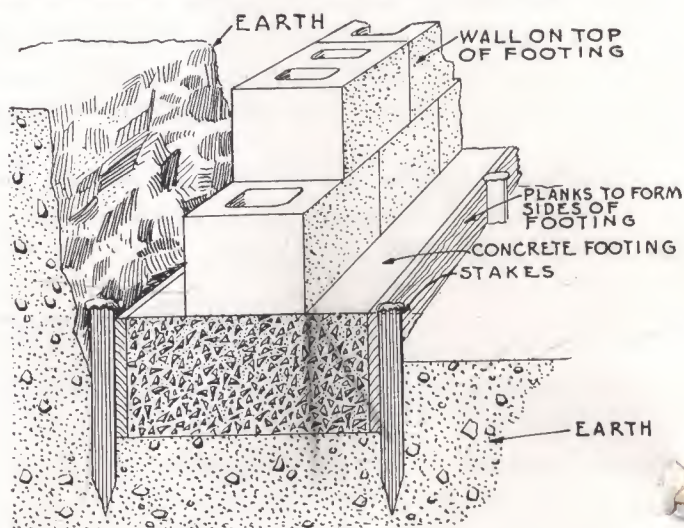

FIGURE 3
If the trenches for the footings are dug to the exact size it is not necessary to build the sides of form lumber (see Paragraph 8-b and Figure 3).
- (b) If the trenches for the footings are not square and true and the exact sizes shown on FOUNDATION PLAN and SECTIONS, and as described in Paragraph 7-c, build the sides of the trenches up with planks. These planks are to be nailed to stakes driven in the earth (see Figure 3).